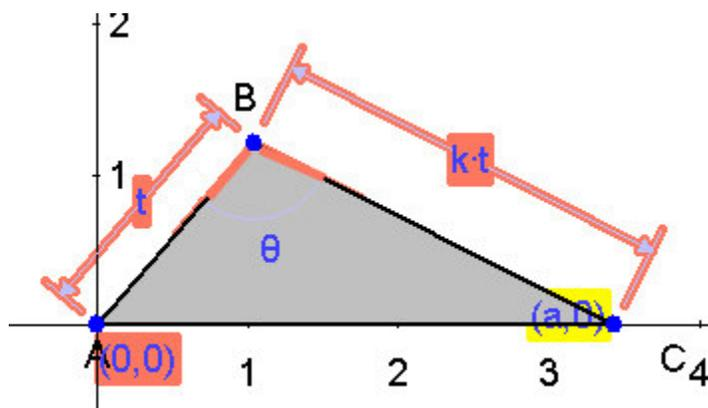

Figure 1
- To add the new constraint, you must relax one of the conflicting ones. Choosing the bottom radio button affords the opportunity to choose which; all the conflicting constraints are highlighted in red, the constraint you tried to add is highlighted in yellow (Figure 1).